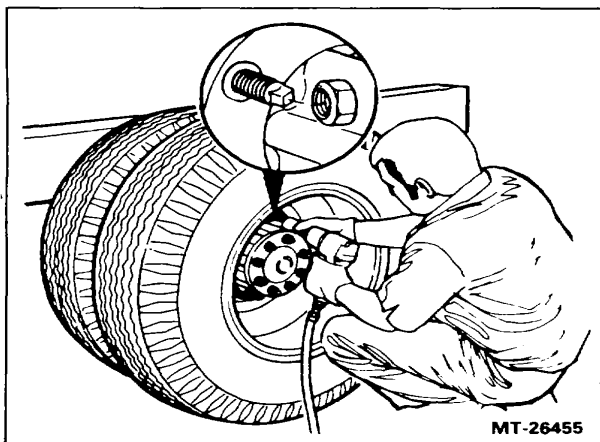

Figure 10. - Remove Outer Wheel Nuts
4. Remove wheel nuts (outer nuts with dual wheels at rear) (Figure 10).